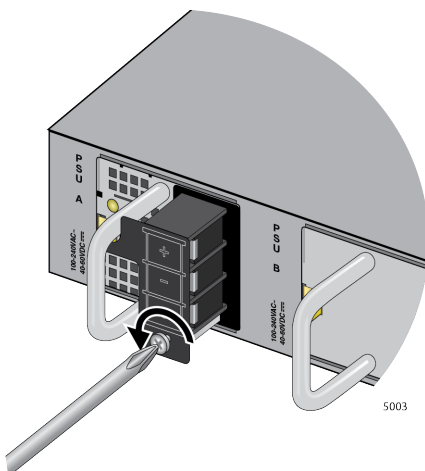

Figure 60. Loosening the Screw for the Panel
2. Loosen the screw for the connector panel several turns with a Phillips-head screwdriver. Refer to Figure 60 on page 124.